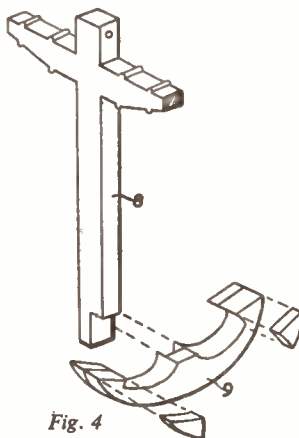
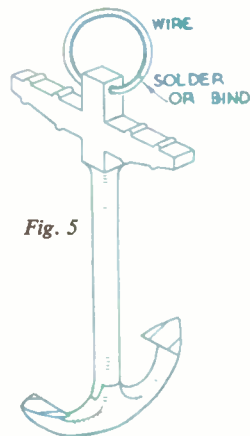

Fig. 4
Fig. 5
The anchor is made up as shown in Fig. 4, from which it will be noted that the two pieces (8) and (9) are halved and glued together. Odd scraps of waste wood should be glued on either side of piece (9) at the ends, and the whole anchor is then shaped as shown in Fig. 5. The stock is drilled to take a ring of wire of about 1in. diameter.
Place the glass block in various positions in the path of the narrow parallel beam of light and note how the bending of the light, as it passes through the block, produces greater and greater displacement as the angle of incidence  $A B C$  is increased (Fig. 4).
This is a night light (Fig. 5) arranged to shine on a pocket watch or wristlet watch, so that the time may be easily seen during the night without inconvenience.